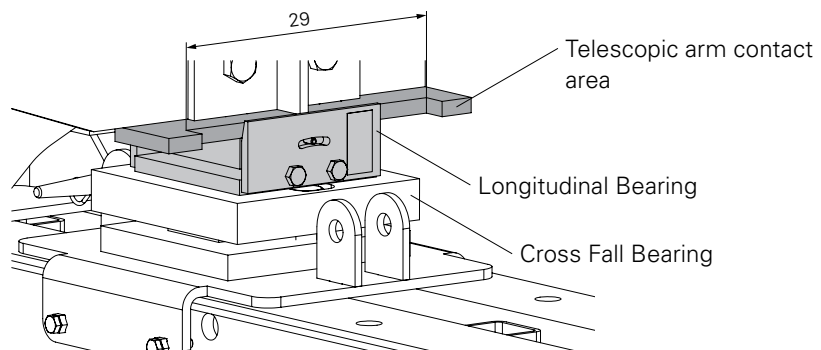
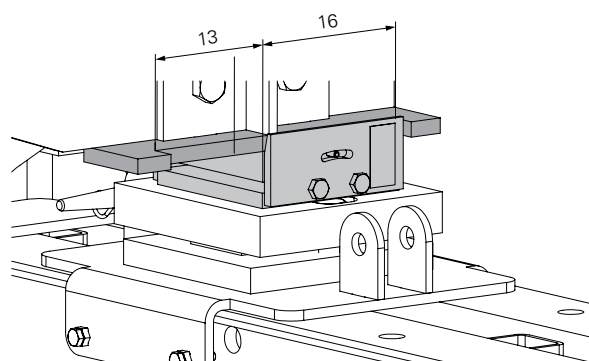

Fig. B1.05
Fig. B1.06
- The Bearing Frame has a 29-cm-long recess. This allows longitudinal adjustment of the truss package by up to 13 cm. (Fig. B1.05 + Fig. B1.06)
- If the Horizontal Bearing (23) has to be laterally moved to achieve the exact position, see "Aligning the Horizontal Bearing" on Page 37.
(Fig. B1.06)